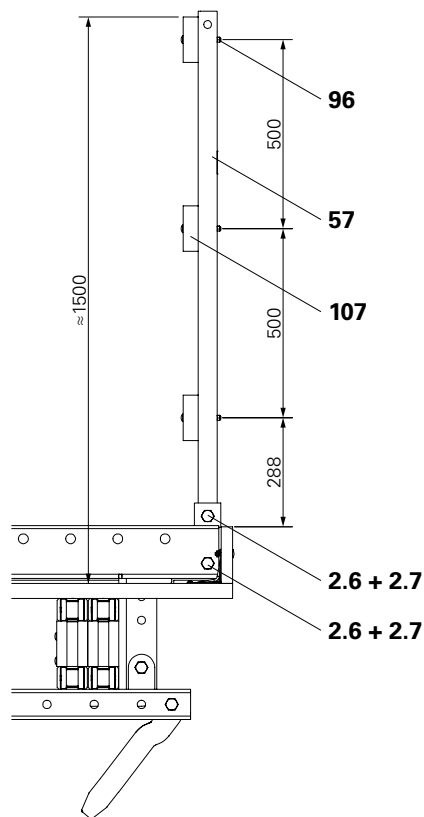

Fig. B1.19a
4. Connect Guardrail Post SCS 150 (**57**) and plank L x 12 x 4 cm (**107**) using F.H. Bolt DIN 603 M8 x 100 MU (**96**). (Fig. B1.19a)